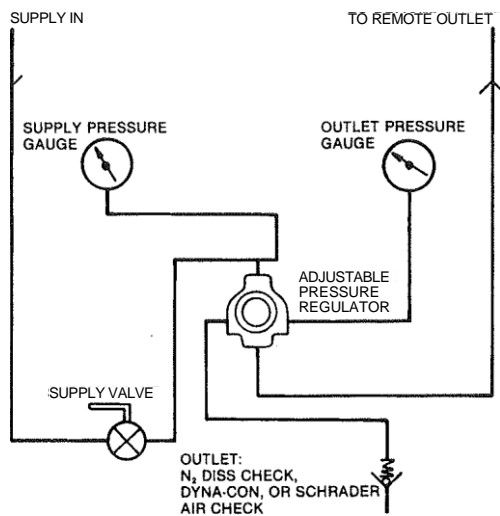

FIGURE 2
10. Refer to the Piping Diagram, Figure 2. All components Downstream of the Supply Valve may be serviced without disconnecting the Control Panel from the piping system. It is not necessary to remove the aluminum frame to service the Control Panel.
11. For servicing, turn the Supply Valve "OFF". Turn the Pressure Regulator knob fully counterclockwise. Remove four (4) Phillips-head screws from the panel and gently pull the front panel away, extending the internal tubing.